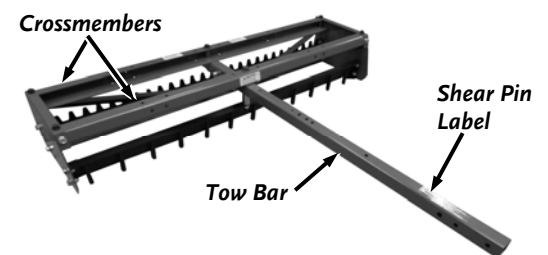

Figure 10
6. Flip the Frame Assembly over so the front of the Frame Assembly is facing forward and both Crossmembers are on top (**Figure 10**).
9. Position the Tow Bar under the Crossmembers with the Shear Pin Label on top and toward the front (**Figure 10**).